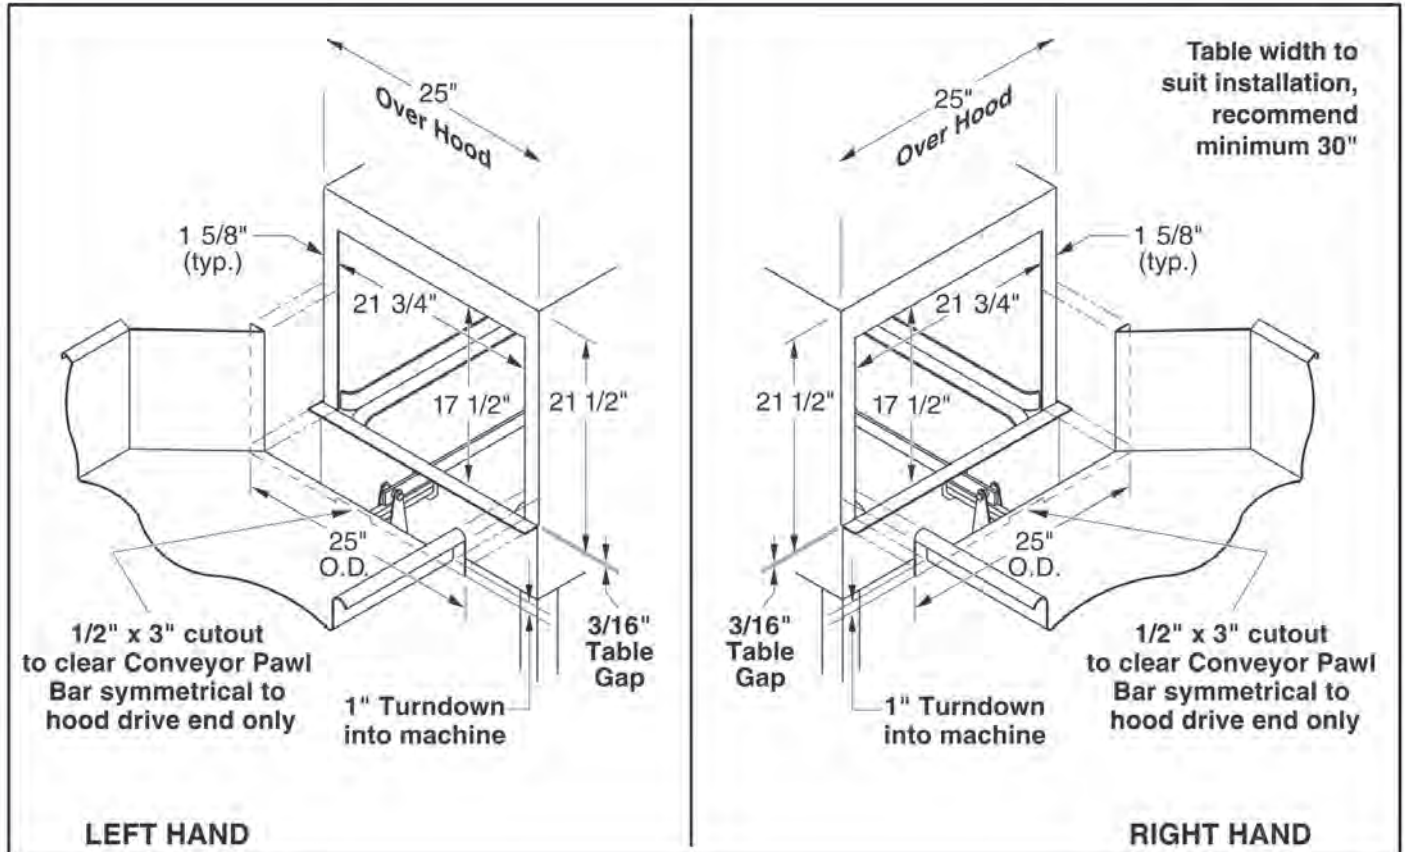

Figure 2
1. Position the table lip or turndown at both ends of the dishwasher. Make sure to seat the lip or turndown into the dishwasher as illustrated in Figure 2.
3. Using Figure 2 as a guide, mark the lip or turndown of the dish table for the required cutout to clear the Pawl Bar.
4. CAREFULLY cut the lip or turndown as illustrated in Figure 2. Deburr all sharp edges before reinstalling.